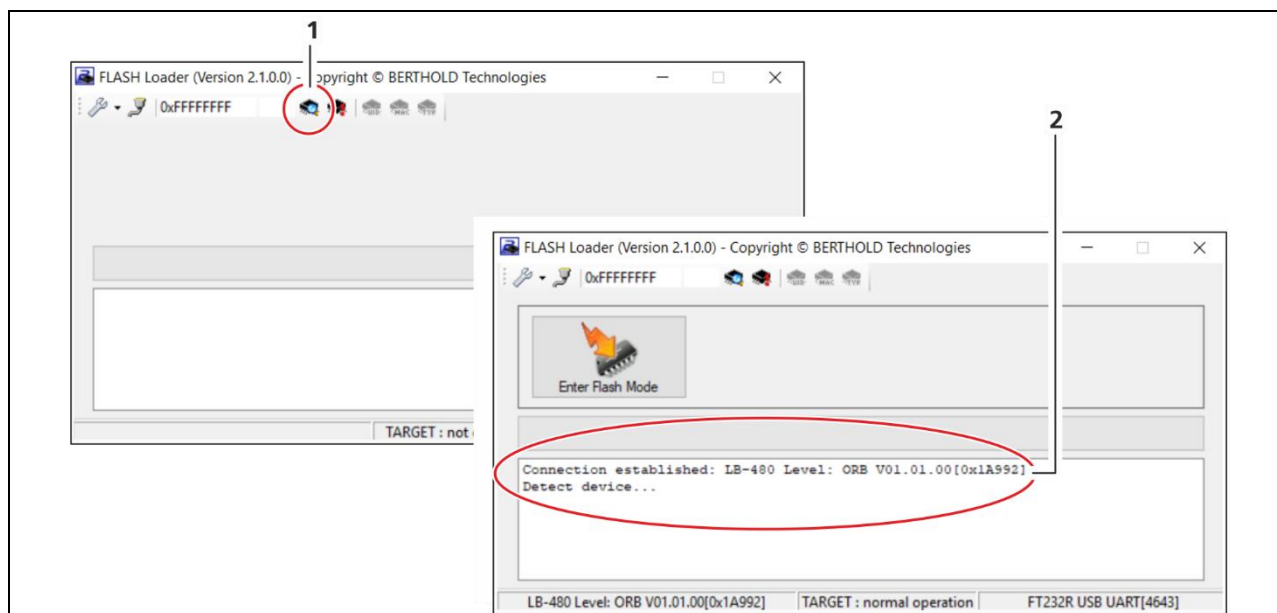

Fig. 4 Set up the connection to the detector
21. Click on the “Detect Device” button  (Fig. 4, Pos.1) to establish the connection to the detector.
- ▶ The detector has been found and the connection is established. The button <Enter Flash Mode> is displayed and the message “Connection established: ...” (Fig. 4, Pos.2) appears.